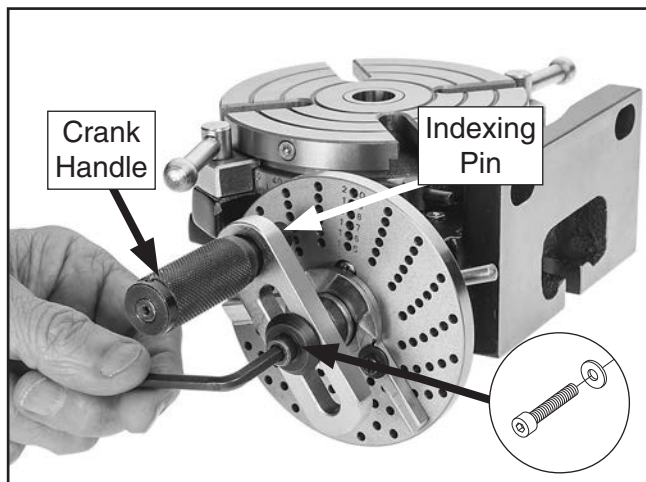

Figure 25. Tightening cap screw that secures crank handle.
- Install crank handle with indexing pin and secure it with washer and cap screw removed in **Step 1** (see **Figure 25**).